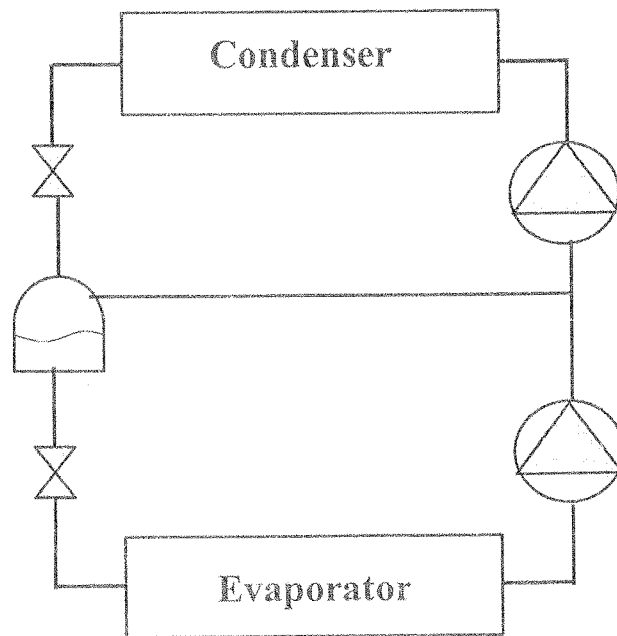

Figure Q2
- b) Figure Q2 shows a 1760 kW two-stage compound vapor compression system with a flash chamber that uses HCFC-22 (R22) as the refrigerant. Evaporating and condensing temperatures are 1.7°C and 35°C respectively. Refrigerant vapour enters the low-stage compressor at dry saturated state, and the subcooled liquid refrigerant leaves the condenser at a temperature of 32.2°C. Both compression processes are assumed to be isentropic. Determine,